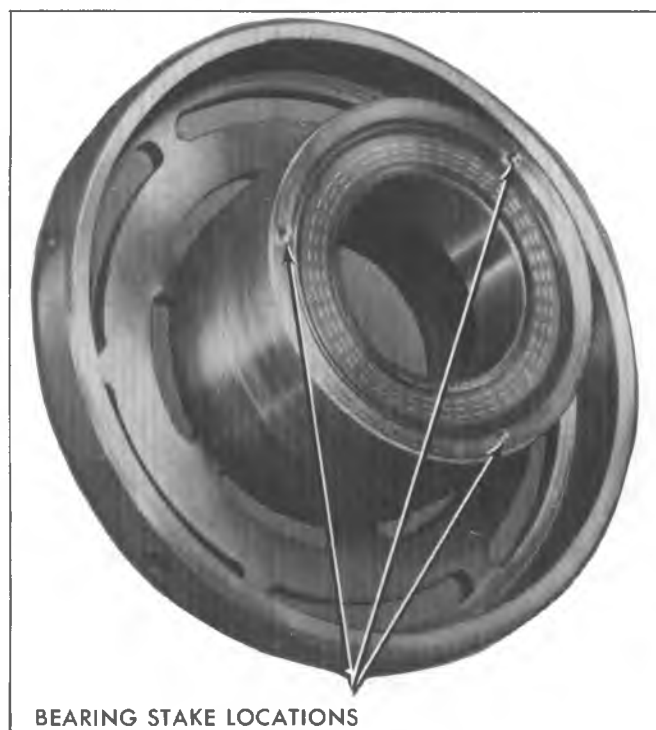

Fig. 81--Bearing Stake Locations
rotor hub to remove the bearing. See Figure 81.
3. Stake bearing in place with a 45° angle punch (Fig. 81) but do not stake too deep (.045 - .055 inch) and possibly distort the outer race of bearing. Use new stake locations 120° apart. Do not use old stake locations.